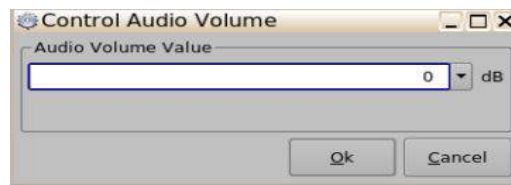

Figure 16: Control Audio Volume Window
- The user can configure the audio volume on the Control Audio Volume window (Figure 16).